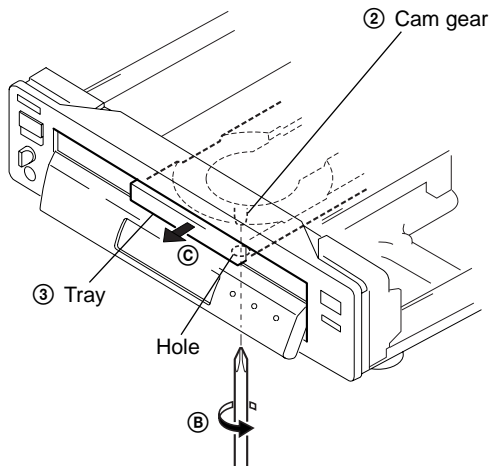

Fig. 2
- 1) Insert a cross-tip screwdriver into a hole at the bottom, and rotate the cam gear ② in direction ②. (See Fig. 2)
**Note:** To prevent a damage of cam gear, rotate it in direction ② by 1/4 turn.
- 2) Draw out the tray ③ in direction ③ by hand, and remove a disk. (See Fig. 2)